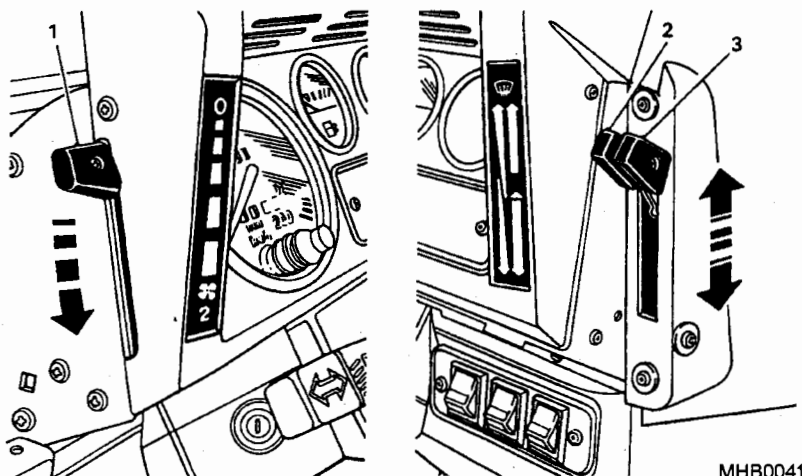

Fig 21 Fresh air/heating controls
38 The fresh air/heating controls are located on either side of the instrument panel, the distribution (Fig 21 (3)) and temperature control levers (2) being on the right and the blower motor lever (1) on the left, for the right hand drive vehicles.